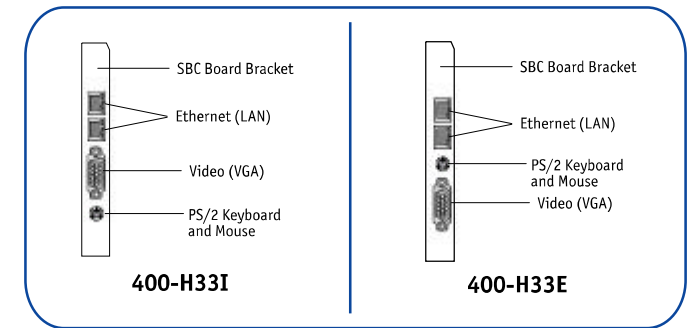

Figure 6. Power Cord Connection
After inserting the power cord into the plug on the power supply, be sure to turn the power supply switch to 1 (Standby) (Figure 6). If the switch is set to 0 (Off), no power will be available to power the system.
- 1) To power on the unit, make sure that the power cord is connected to the power cord connector on the power supply and the power supply switch is set to 1 (Standby) (Figure 6).